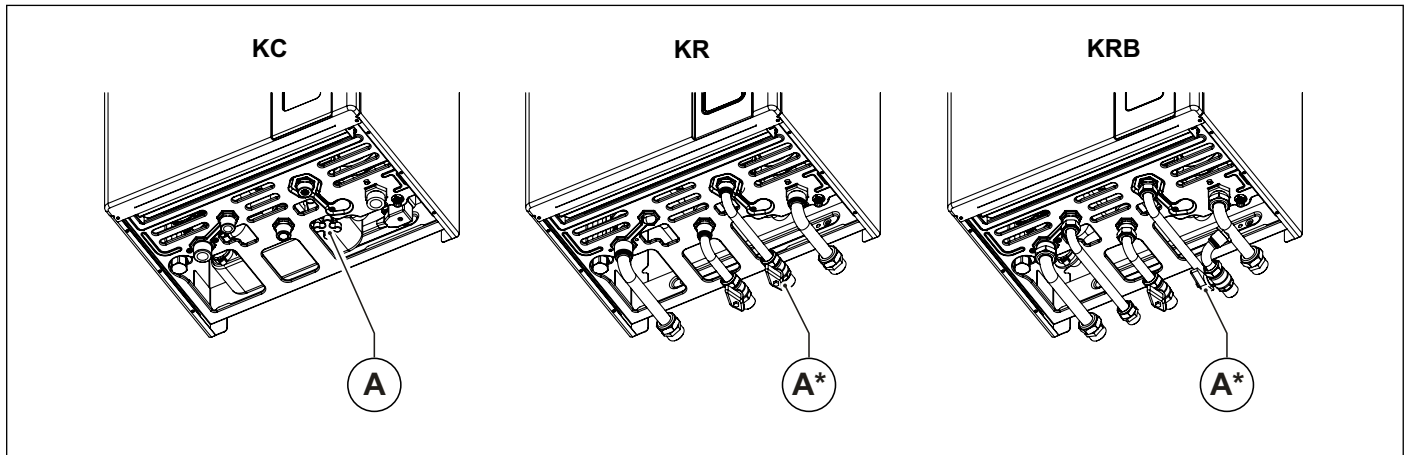

Fig. 2 Filler cock - (A\*) option
Fill the system by working on filler cock (A) (see Fig. 2 Filler cock - (A\*) option).